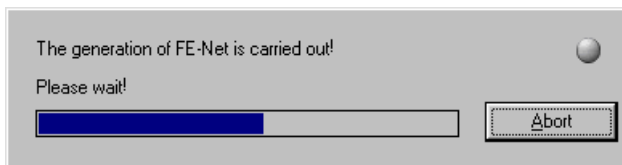
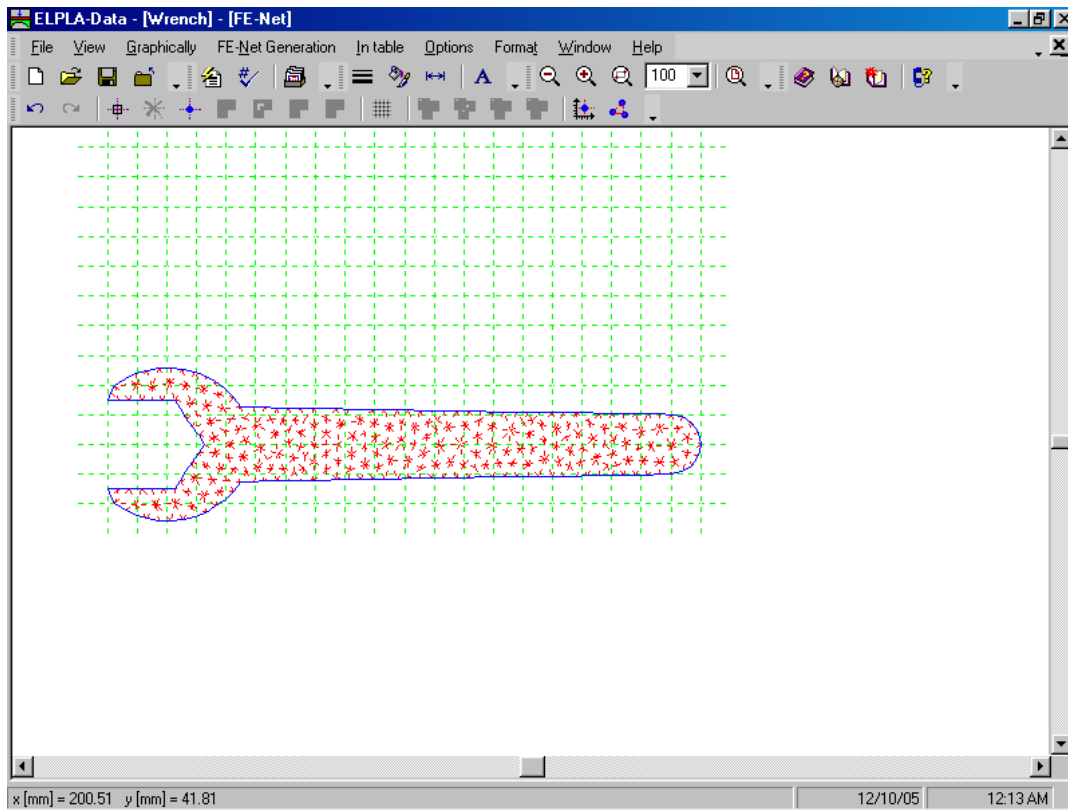

Figure 5-17 "FE-Net generation" progress menu
Figure 5-18 Final FE-Net of the wrench
After clicking the "OK" button, FE-Net generation progress menu in Figure 5-17 appears in which various phases of the generation are progressively reported. After finishing the generation of the FE-Net and creating the wrench FE-Net as shown in Figure 5-18, do the following two steps:
- Choose "Save FE-Net" command from "File" menu in Figure 5-18 to save the data of the FE-Net
- Choose "Close FE-Net" command from "File" menu in Figure 5-18 to close the "FE-Net" embedded program and return to the main window of *ELPLA-Data*